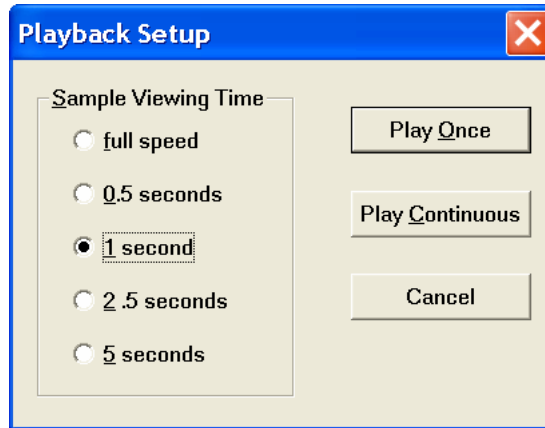

Figure 3-2
2. When you have selected the samples you want to view, select **Playback | Play**. The setup box shown in Figure 3-2 appears.